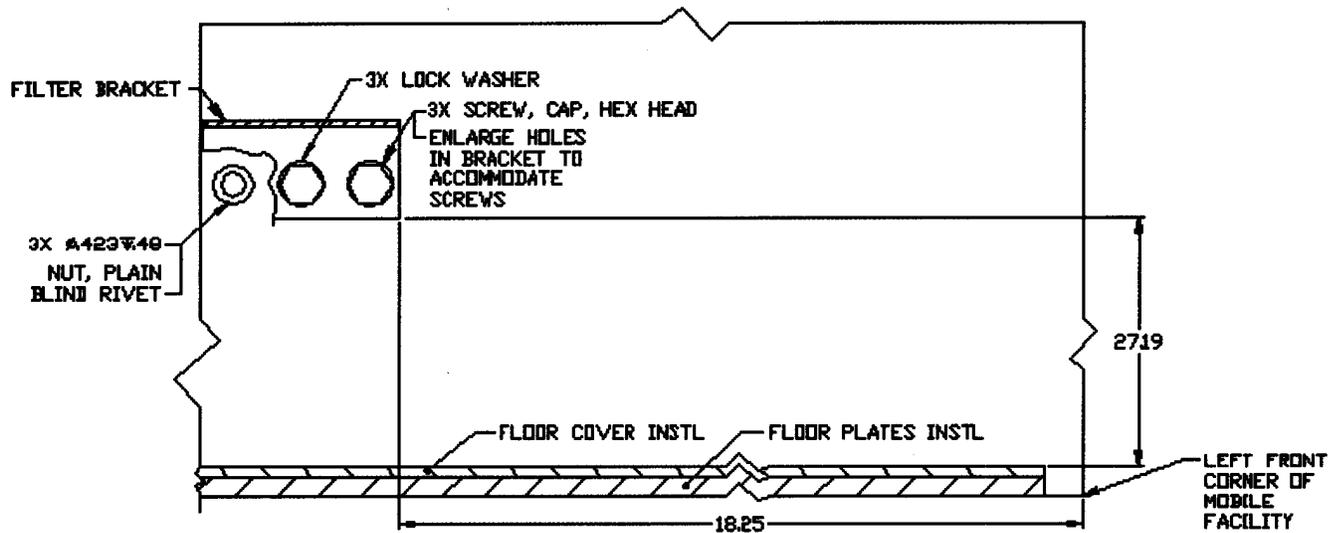

Figure 5. Water Filter Bracket Installation
9. Locate filter bracket using dimensions shown in Figure 5.